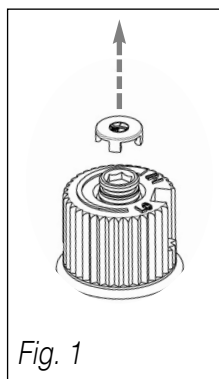

Fig. 1
- Remove the black protection cap by hands (fig. 1) .